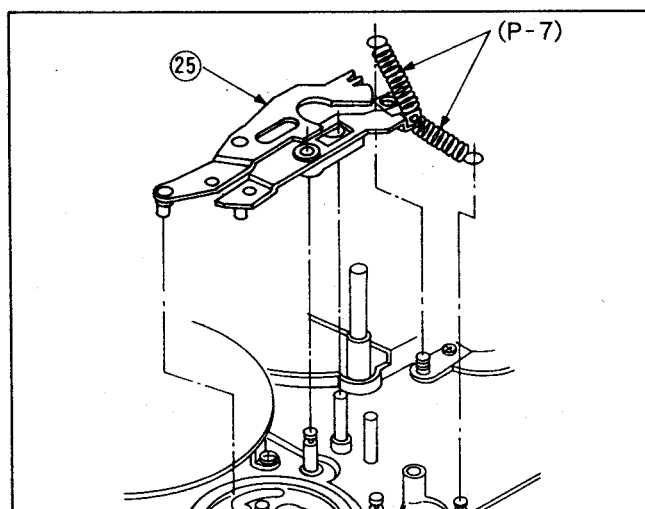

Fig. M11
- 26) Remove sector gear assembly. See Fig M11
- 18) Reinstall sector gear assembly. Install the pin on the sector gear assembly into the outer slot of the cam gear. See Fig. M11.